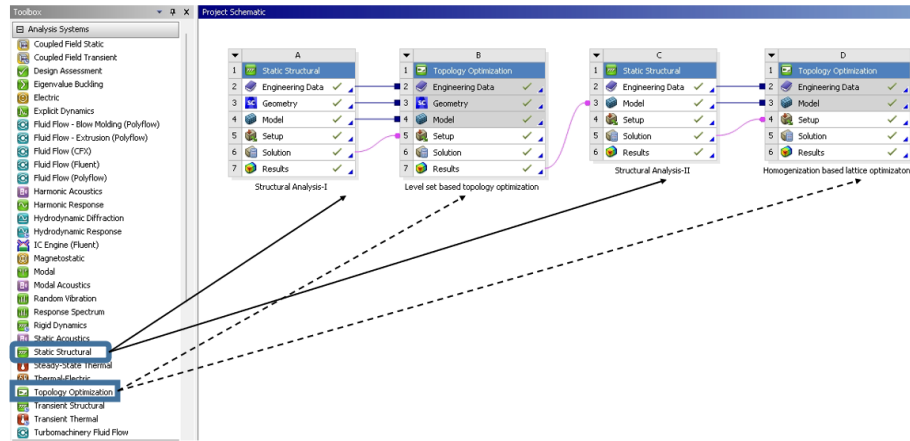

Figure 2: Project schematic for the problem
11. To perform the topology optimization, go to the project schematic page as shown in fig 2. Goto Project schematic → Select Topology Optimization from Analysis Systems → drag and drop Topology Optimization onto Solution of Static structural tab selected previously in the Project Schematic.